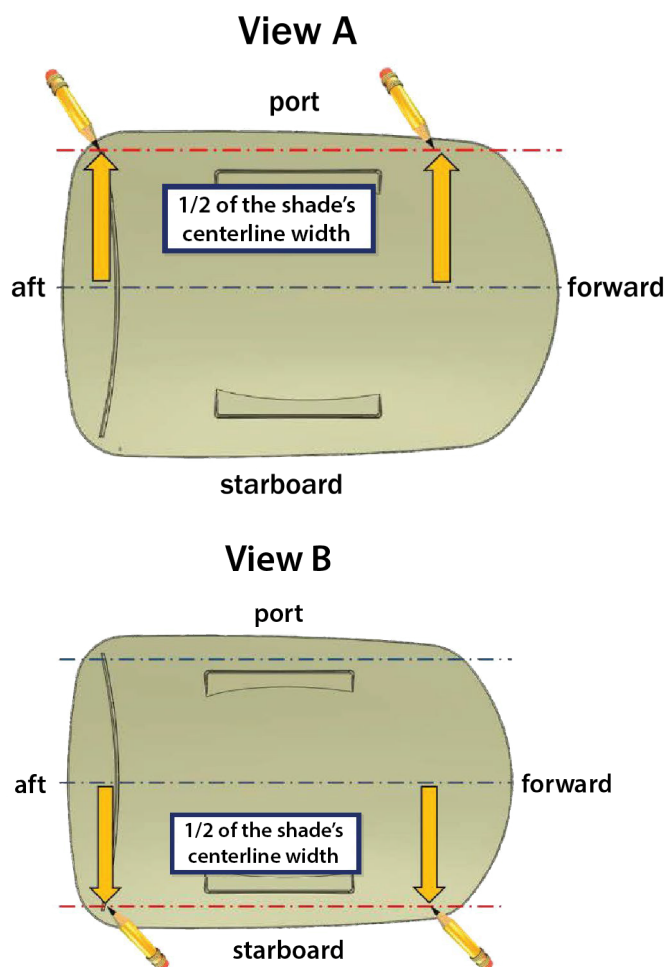

Fig.3
B. Take $\frac{1}{2}$ of the width of the shade specification drawing dimension and measure out from the hardtop centerline to the port side by that amount (**Fig.3, VIEW A**).
NOTE: For example, if the shade centerline width is 2000mm, measure 1000mm from the hardtop centerline to the port or starboard side (**Fig.3, VIEWS A and B**).